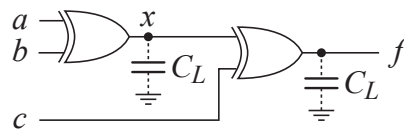

Figure 1. Two cascaded XOR gates.
- a) The propagation time t_d (the time required to drive the output voltage from V_{DD} to $V_{DD}/2$ or from ground to $V_{DD}/2$) for the XOR gates in Figure 1 is 1 ns. Sketch the voltages in node f and x as functions of time when the inputs $\langle a, b, c \rangle$ changes from $\langle 0, 0, 0 \rangle$ to $\langle 0, 1, 1 \rangle$. Consider a, b , and c as ideal. (3 p)